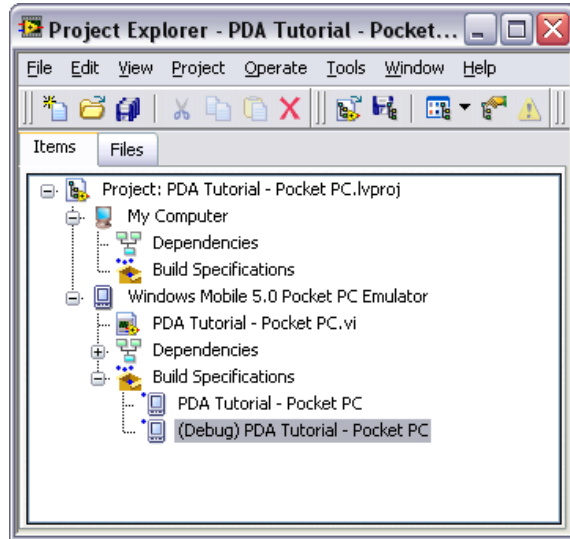

Figure 8. Two PDA Build Specifications in the Project Explorer Window
- Click the **OK** button. The build specification you just created appears in the **Project Explorer** window as shown in Figure 8.
1. Right-click the build specification for the PDA VI you want to build and deploy, which is **(Debug) PDA Tutorial - Pocket PC** in Figure 8, and select **Debug** from the shortcut menu. Save any VIs if prompted.